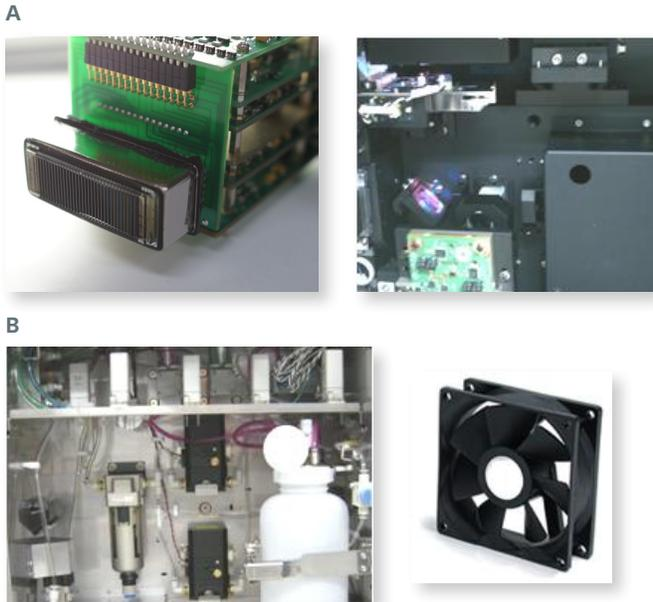

Figure 1. Electric devices found in a flow cytometer.
Electronic noise reduction begins by determining the source of the noise contamination. Figure 1 shows examples of electrical devices used in flow cytometers. Optical detectors are particularly sensitive to noise and are a starting point to decrease electronic noise level (A).